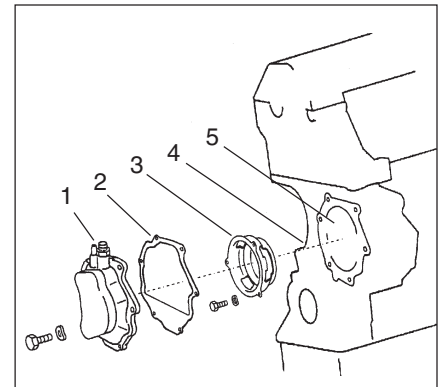

Fig. 4
- Before installing this vacuum pump the assembly basket (3, fig. 4) of older vehicles should be removed. It is screwed on in the crankcase in front of the injection adjusting device. New vehicles don't have this assembly basket any more.